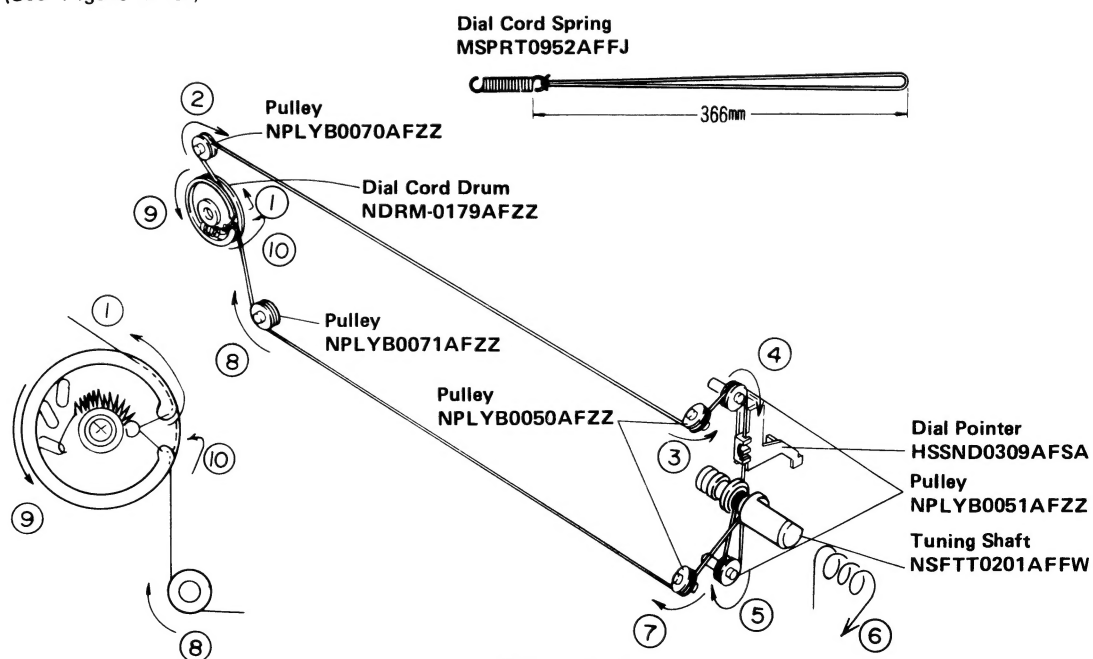

Figure 3-4
1. Turn the drum fully counterclockwise and stretch its cord over the parts in the numerical order — as shown in Figure 3-4.